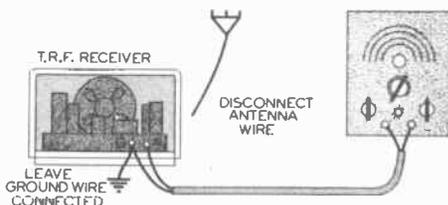

FIG. 1. Signal generator connections for aligning a T.R.F. receiver.
**Signal Generator Connections.** The signal generator is very easily connected to a tuned R.F. receiver for alignment purposes. Simply remove the antenna lead-in connection from the receiver, connect the shield on the cable of the S.G. to the ground terminal of the receiver (leaving the ground wire connected), and connect the other S.G. lead to the antenna terminal of the receiver. In other words, feed the output of the signal generator directly into the antenna and ground terminals of the receiver, as indicated in Fig. 1.